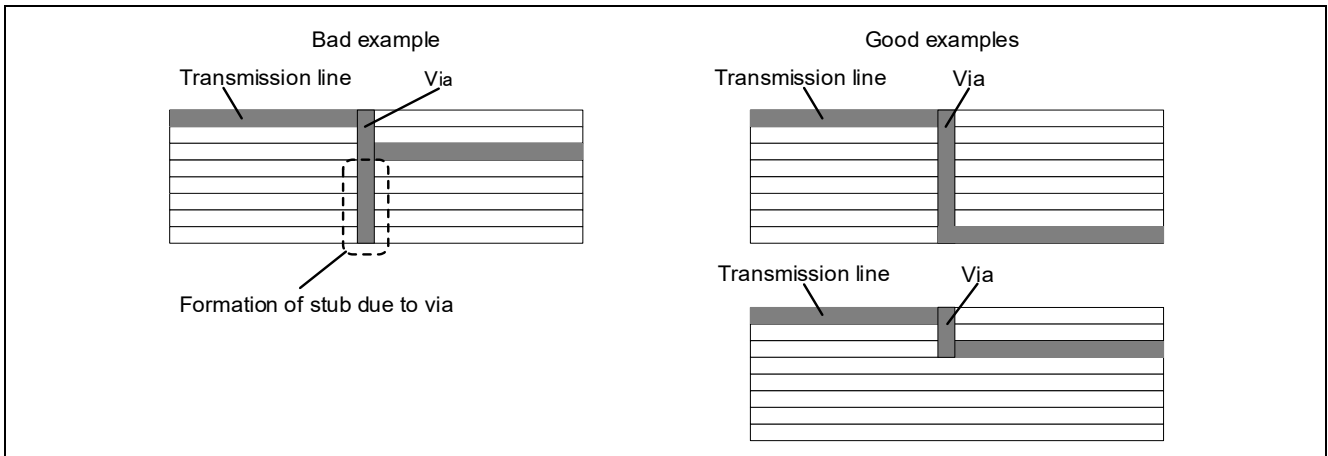

Figure 2.1 Formation of stubs by vias
- Also, ensure that stubs are not formed due to vias. Figure 2.1 shows an example of stub formation due to vias.